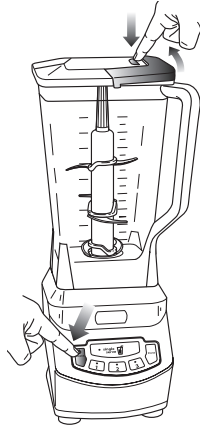

Fig. 7
- 12 When you have reached your desired consistency, stop the appliance by pressing the power button (⏻) and wait for the Stacked Blade Assembly to stop turning. **(Fig. 7)**
- 13 To remove the lid, pull the lid handle up to a 90° angle. Turn the blender pitcher counter-clockwise to lift off the base. **(Fig. 7, Fig. 8)**